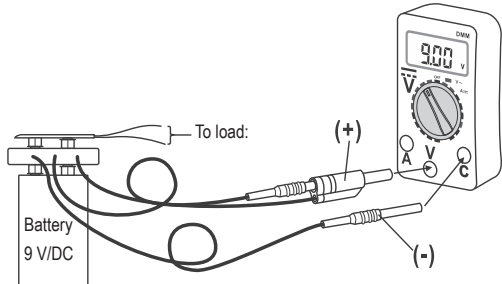

Fig. 3
- Connect the plug on the measuring adapter to a compatible multimeter, as shown in figure 3.